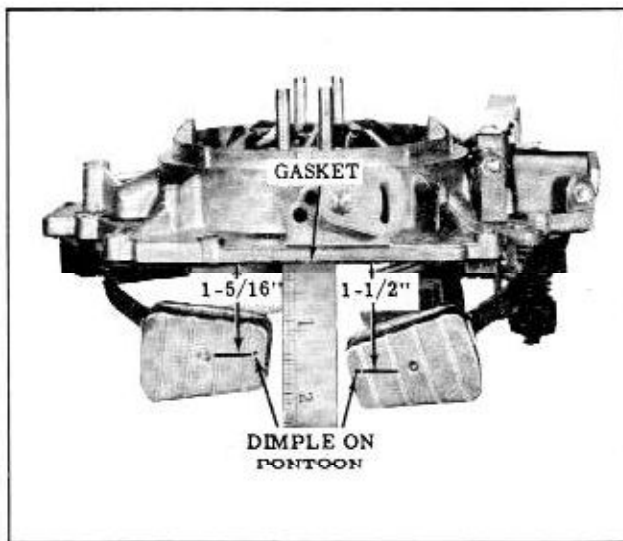

Fig. 8-123 Checking Primary and Secondary Float Drop
1. Position the air horn as shown in Fig. 8-123. Do not hold the power piston for this adjustment.